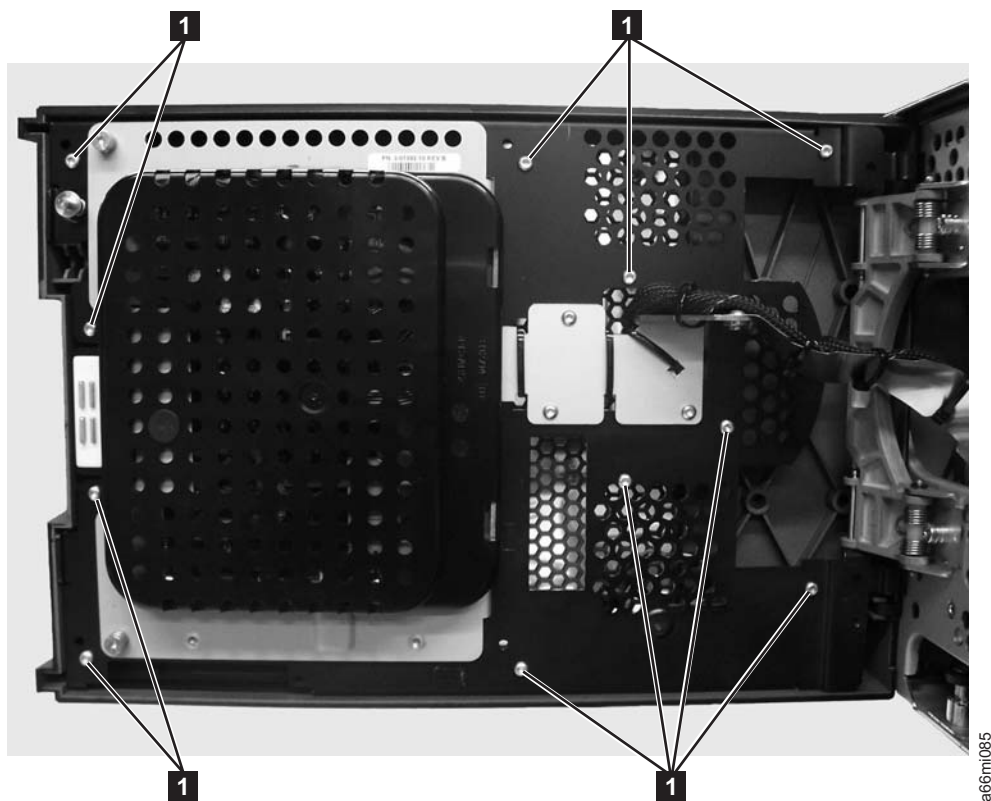

Figure 8-12. Control module Access Door screw locations
- For the control module (11 screws), see **1** in Figure 8-12 on page 8-19.